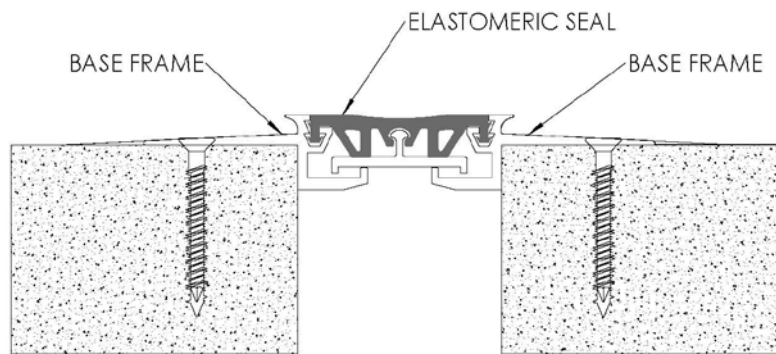

FIGURE 3
3. Position the elastomeric seal into position and push the seal bulbs into the base frame top channels as shown. Make sure the bulbs are seated all the way into the channel. Also, make sure the bottom center channel in the seal is pushed over the protrusion on the slide plate (not required on 1" joint sizes). **See Figure 3**